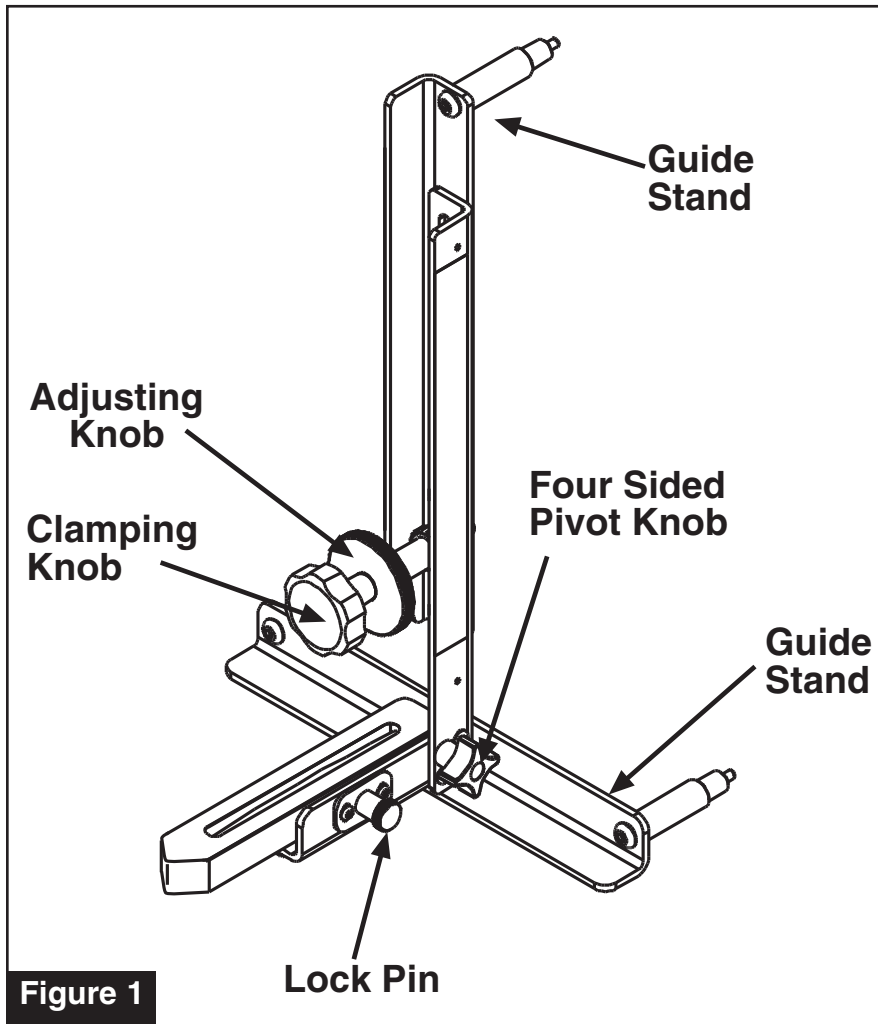

Figure 1
Measuring Camber: Slightly loosen the black clamping knob and rotate the adjusting knob (see Figure 1) to lengthen or shorten the tool. The **91000 FASTRAX™** adapts to most wheels from thirteen to eighteen inches in diameter. The **91010 FASTRAX™** adapts to most wheels from seventeen to twenty-two inches in diameter. Fit the tool so the guide studs (3) grasp either the inner or outer lip of the wheel rim. Adjust the tool to apply enough pressure for a snug fit and tighten the black clamping knob. In cases that the wheel has no rim or lip to grasp, simply hold the tool to the accessible flat surfaces and read your camber angles or changes.